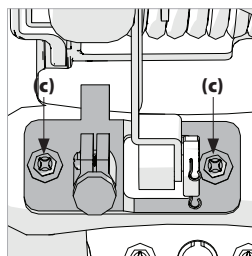

Fig. 7
- Slacken the two screws. (**Fig. 7, c**)